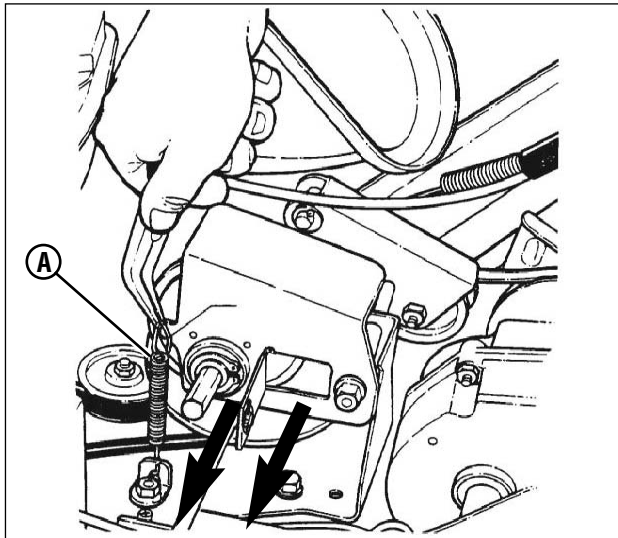

Figure 31: Removing the driven disc assembly
2. Using needle nose pliers, unhook the drive spring (A, Figure 31) and slide the driven disc assembly off the hex shaft.